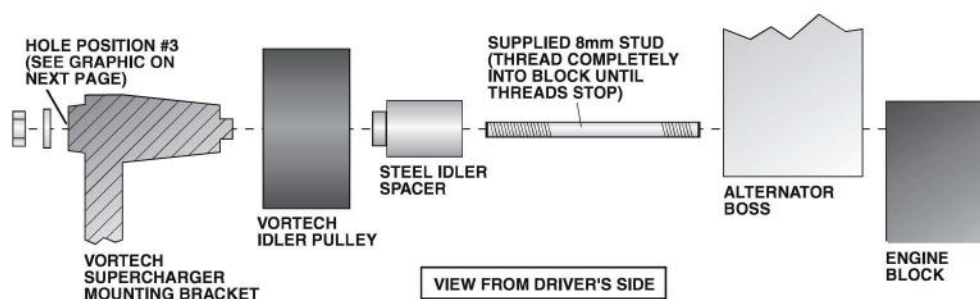

Fig. 8.1-d
- H. After the bracket has been fully secured (the belt should be properly routed around/under all pulleys except for the water pump), use a 1/2" breaker bar or ratchet to release the belt tension. Push the belt over the top radius of the water pump pulley, underneath the crank pulley, over the top of the tensioner pulley and release the tensioner (see Fig. 8.1-e).